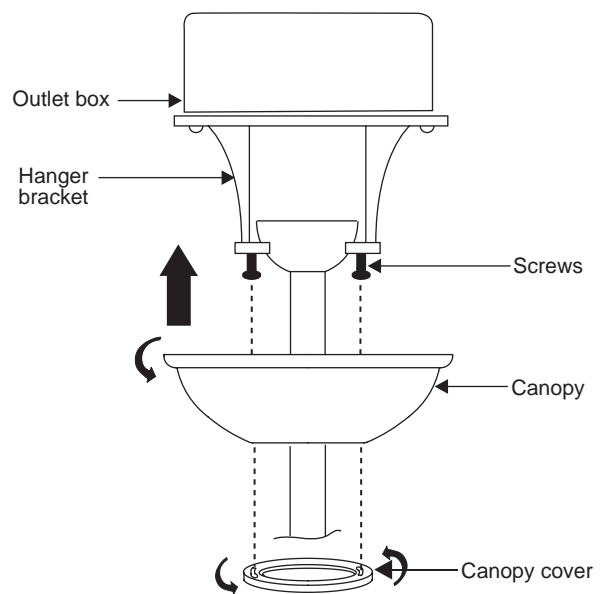

Figure 14
Step 2. Slide the canopy up to ceiling and over the two screws on hanger bracket. Rotate canopy clockwise, next, while holding the canopy with one hand, slide the canopy cover over the screws and rotate clockwise until tight. **Note:** adjust the canopy screws as necessary until the canopy and canopy cover are snug. (Fig.14)